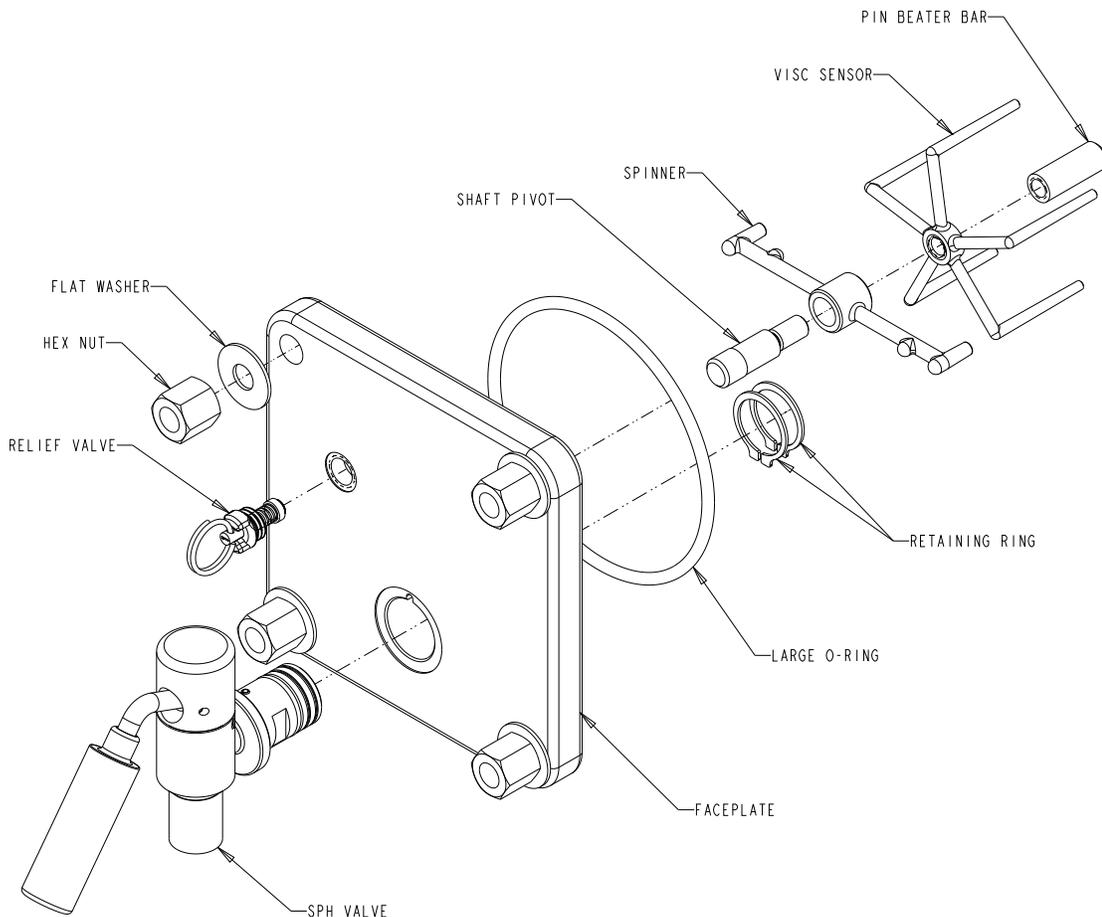

Figure 13.
6.	Disassemble the dispensing valve (see Figure 13).